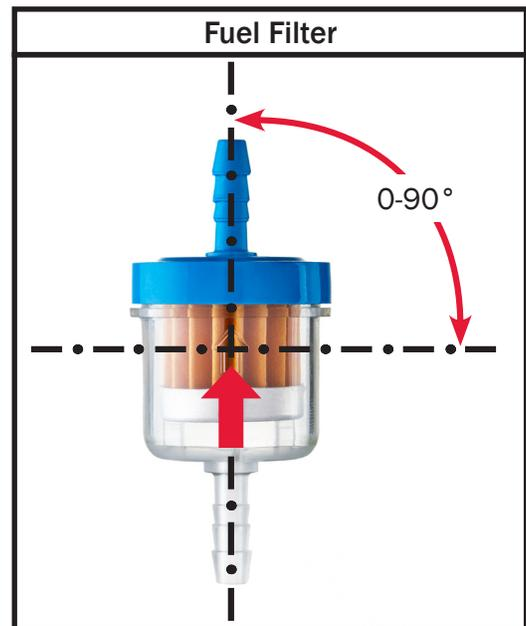

Figure 92.
- The outlet of the fuel pump is required to be installed upwards. The angle should be between 15°-35°. See Figure 92 for fuel pump orientation.